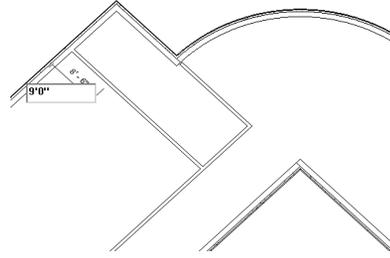

*Figure 3-71 Sketching the second interior wall*
5. Start the next wall from the endpoint of the last created wall by clicking on its endpoint. Move the cursor upward toward the left such that it subtends an angle of 135 degrees with the horizontal and reaches the exterior wall displaying the **Nearest** object snap, as shown in Figure 3-71. Click to specify the endpoint of the wall.
6. Similarly, to start the next interior wall, bring the cursor close to the starting point of the last created wall (marked as 10), refer to Figure 3-71. Then, move the cursor away along the centerline of the wall until the temporary dimension appears. When the temporary dimension appears, enter the value **10'0"**(**3048 mm**) and press ENTER to specify the start point of the wall.